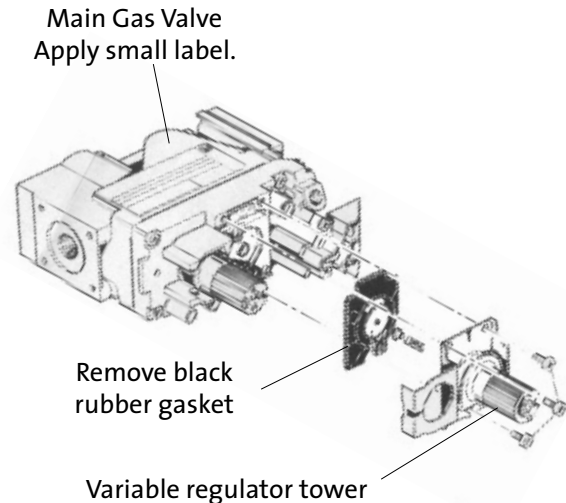

Figure 27. Regulator assembly.
14. **Replace the Variable Regulator.** Using a Torx T-20 screwdriver, remove the three screws from the front of the valve regulator. See fig. 27.
Remove the Regulator Tower, Gasket, white plastic disk, and Spring. Remove the black rubber gasket from the valve. See fig. 27.